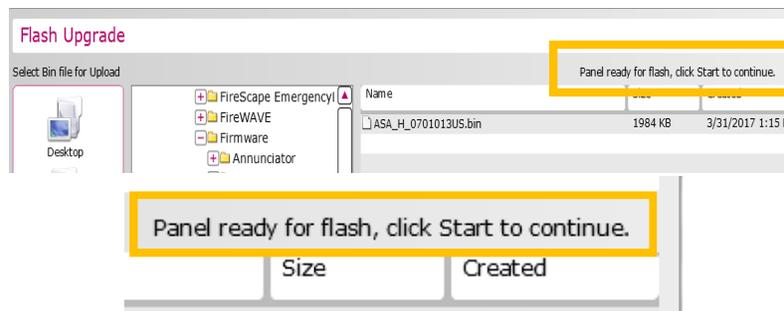

Figure 1.8
8. A message should appear on the upper right corner of the flash upgrade window within Loop Explorer 2. (see Figure 1.8)